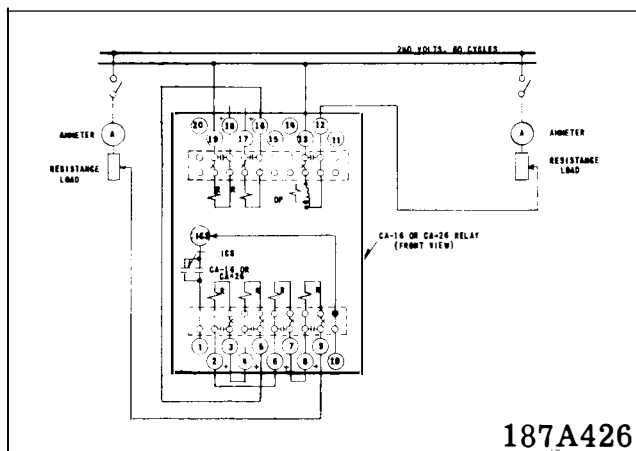

Fig. 11. Diagram of Test Connections for the CA-16 and CA-26 Relays
Apply 16 amperes to terminals 9 and 19 of the CA-16 relay or 14 amperes to terminals 9 and 19 of the CA-26 relay. The contacts should close when the following operating current is applied to the relay with connections of Fig. 11.
- * Connect the relay per the test circuit of Fig. 11. Pass 20 amperes for the CA-16 and 14 amperes for the CA-26 relay into terminals 9 and 19 of the relay. Adjust the plug (when used) in the operating electromagnet until the contacts just close with the following currents into the operating circuit of the relays.